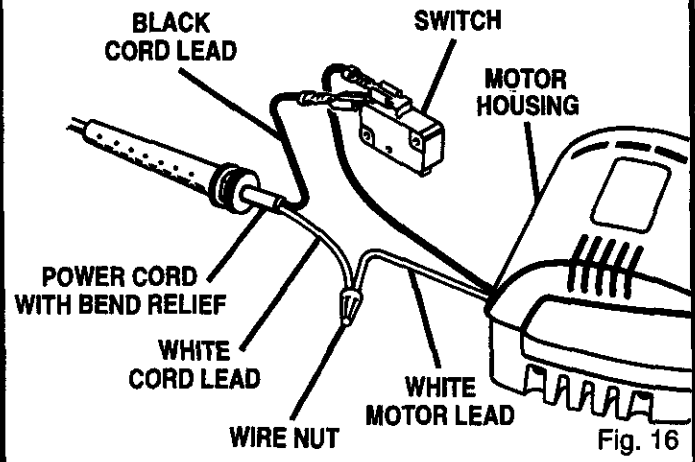

Fig. 16
4. Unplug the black cord lead from the switch, then disconnect the white cord lead from the wire nut. See Figure 16.